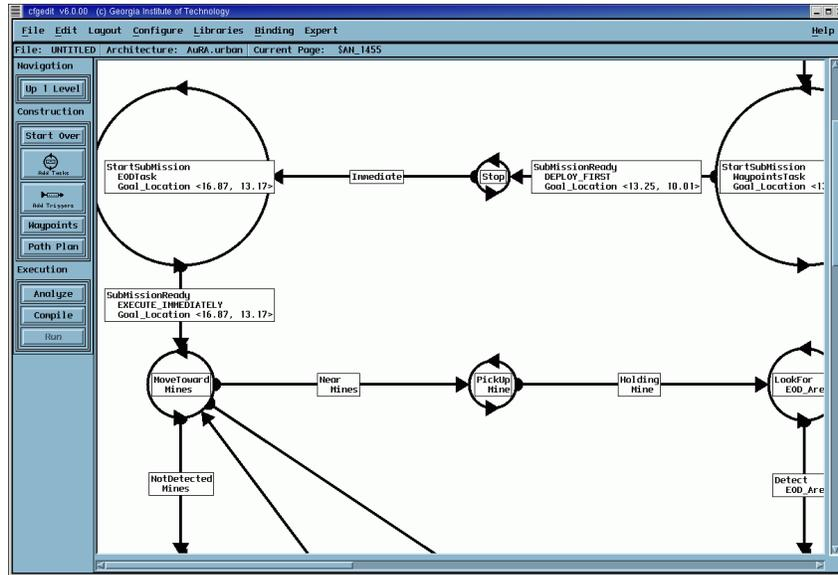

Figure 74: *cfgedit* showing the FSA of the generated mission.
- As you did in the previous demo, descend the level of the configuration until you see the FSA diagram, using the middle mouse button (Figure 74).